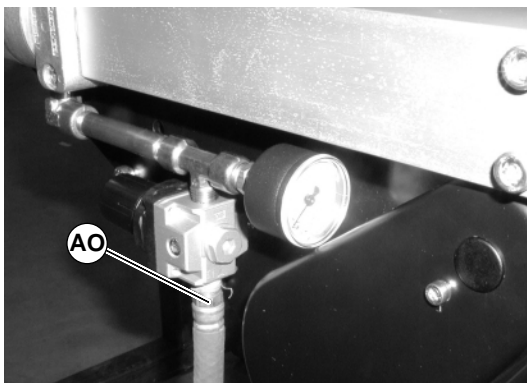

Figure 43
1. Remove air supply and remove hose (AO of Figure 43) from center drive.